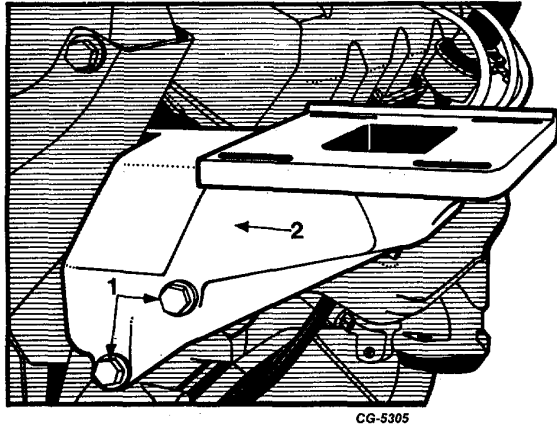

Fig. 12 Removing Air Compressor Bracket
6. Remove bolts and lockwashers securing air compressor bracket to the engine, Figure 12. Remove bracket with "O" - ring.